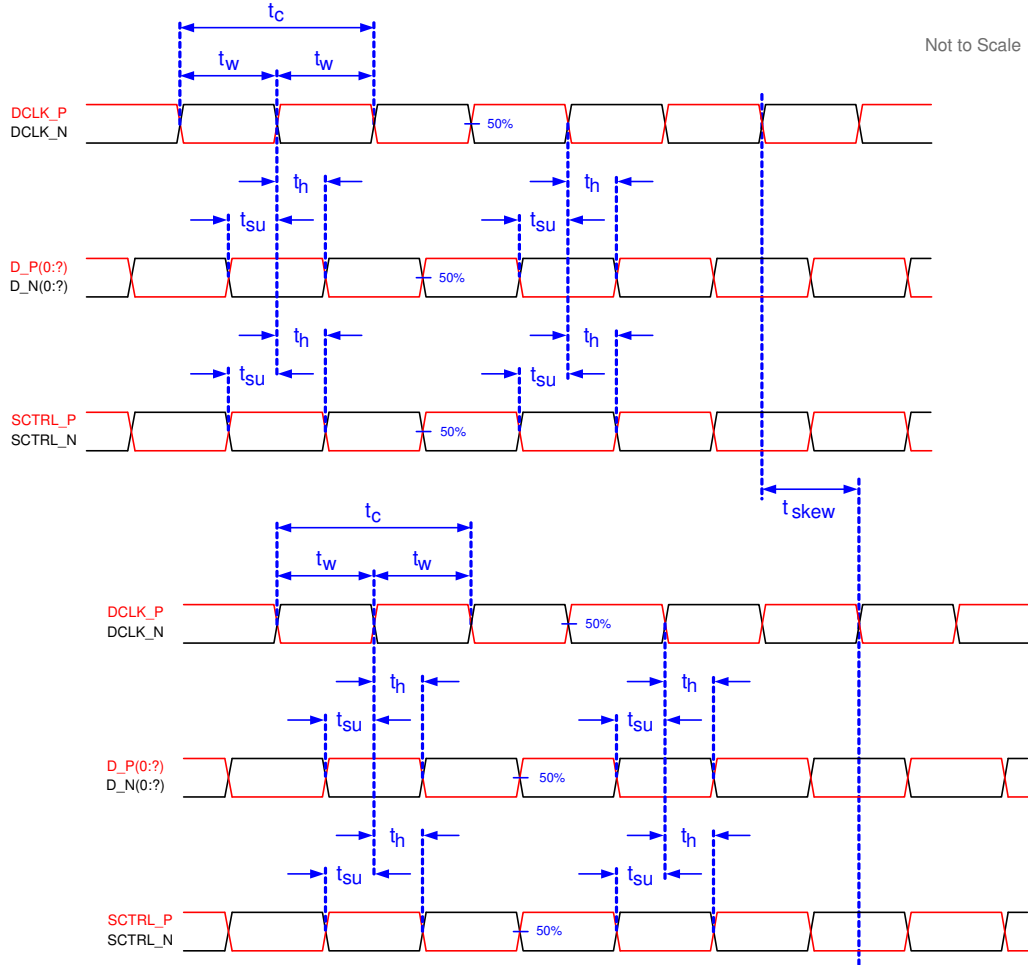

図 5-6. Timing Requirements
- (7) See LVDS Timing Requirements in セクション 5.8 and 図 5-6.
(1) See 図 5-6 for timing requirements for LVDS.
(2) Channel A (Bus A) includes the following LVDS pairs: DCLK\_AN and DCLK\_AP, SCTRL\_AN and SCTRL\_AP, D\_AN(15:0) and D\_AP(15:0).
(3) Channel B (Bus B) includes the following LVDS pairs: DCLK\_BN and DCLK\_BP, SCTRL\_BN and SCTRL\_BP, D\_BN(15:0) and D\_BP(15:0).